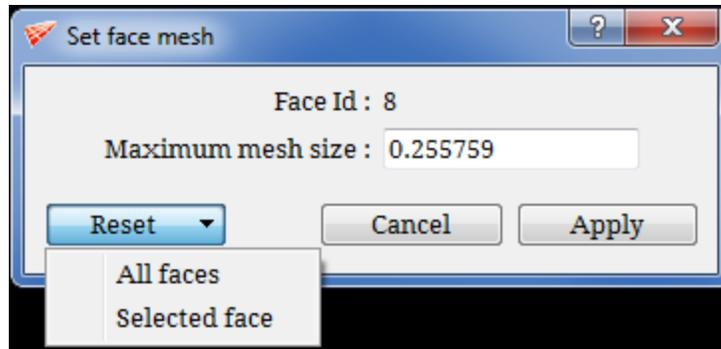
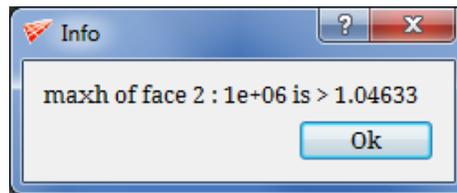

Figure 7.12: Face mesh size dialog box
Figure 7.13: Warning message
**Set face mesh size** helps in setting the mesh size of the face locally. Clicking on the options opens a dialog box as shown in Figure 7.12. The input value cannot be more than the max sag value mentioned in the 'Mesh' dialog box. A warning message pops out as shown in Figure 7.13 and reset it to the original value. This value will be considered only when you create a surface mesh next time. You can also reset the modified face mesh size for the selected face or all faces using the reset drop-down menu.